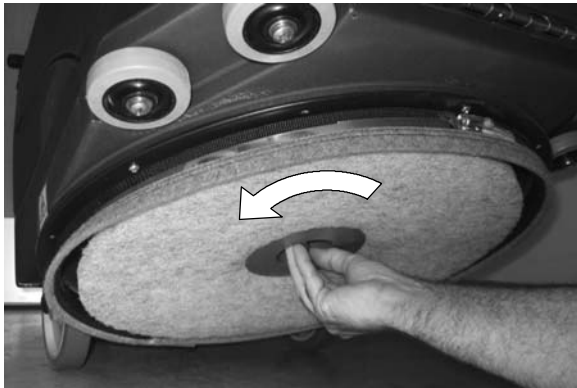

FIG. 26
1. Remove the burnishing pad and clean or replace (Figure 26).